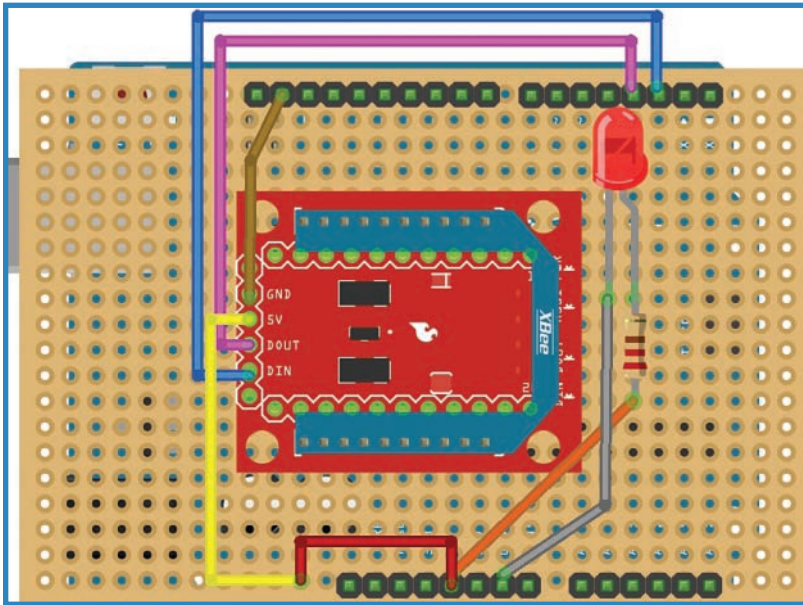

FIGURE 11.26 Solder in a test LED and resistor.
- c. Solder in the status LED as you did before: Connect 5V to the positive lead of the LED with a 220-ohm resistor in between. I use an orange wire in Figure 11.26. Connect the negative lead of the LED to ground, shown as a black wire in the figure.